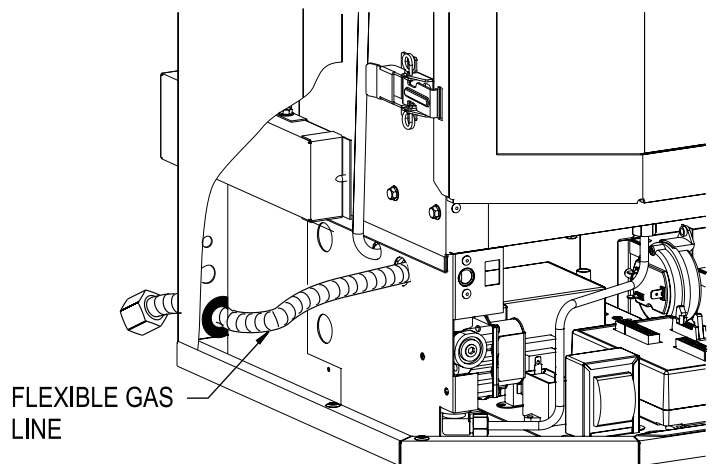

Figure 54 - Bay Window Mantis
1. Remove the access plate on the left side of the cabinet by removing three screws as shown in Figure 54. Put the screws aside.